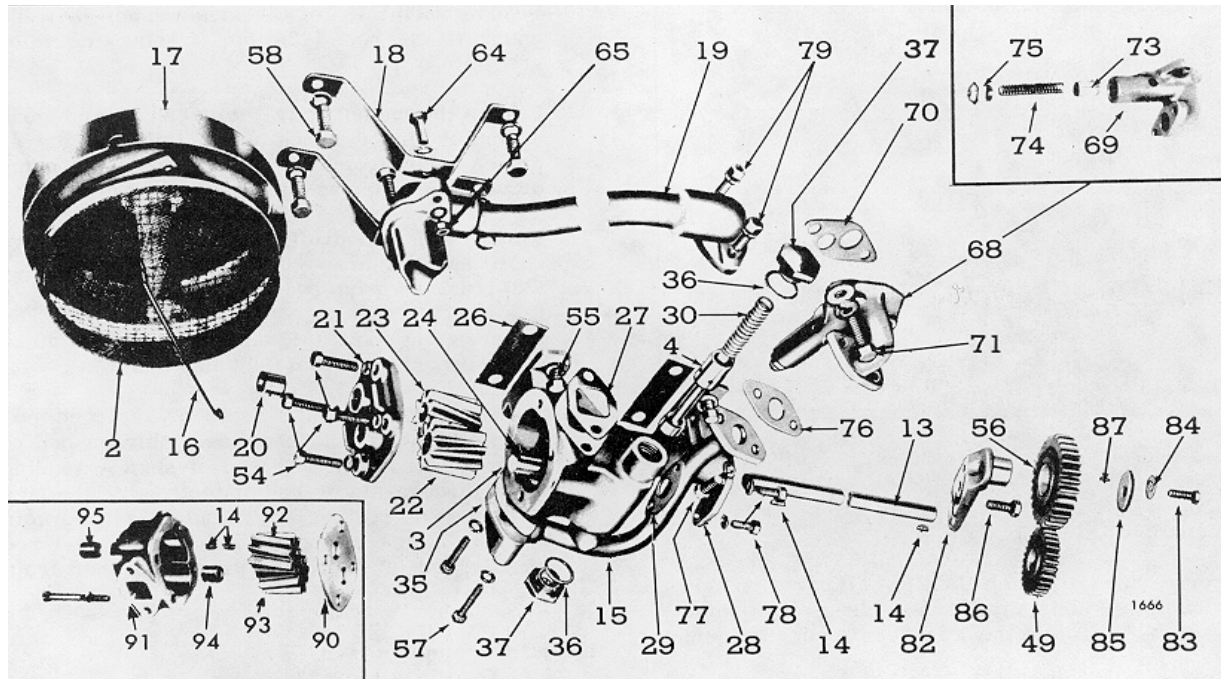
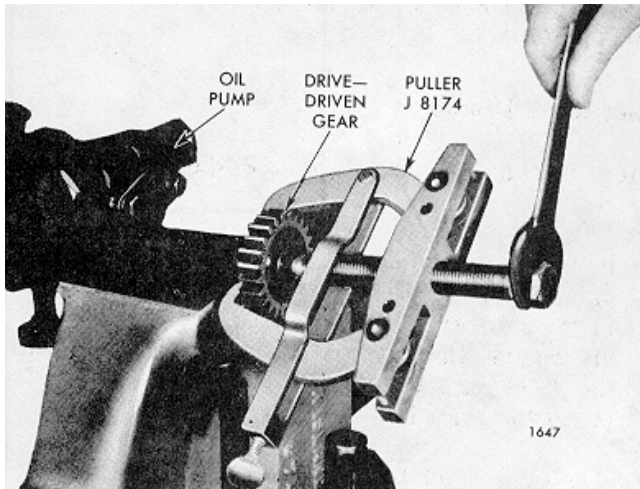
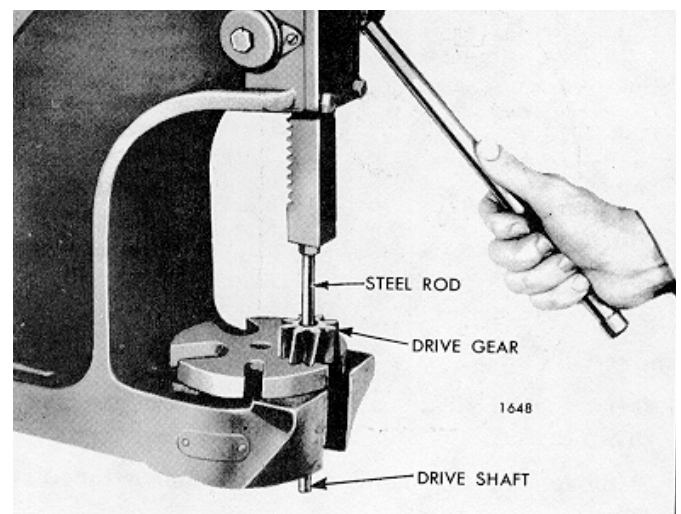

Fig. 3. Oil Pump Details and Relative Location of Parts
Fig. 4. Removing Oil Pump Drive-Driven Gear from Shaft
Fig. 5. Removing Oil Pump Drive Gear from Shaft
pump. The scavenging pump consists of a spacer, two gears, and a pump body (see inset in Fig. 3). Oil which normally flows to the front of the engine during inclined operation of the engine is transferred to the rear of the pan by the scavenging pump and is then picked up by the oil pump for distribution throughout the engine.
3. Remove the oil pump inlet pipe (19) with the screen cover and mounting brackets.
4. Remove the oil pressure regulator and the oil pump outlet pipe (15) as an assembly from the pump body (3).
5. Remove the four bolts and lock washers securing the scavenging pump body or the cover to the oil pump body (3).
8. Remove the valve plugs (37) and copper gaskets (36) from each side of pump body, and jar the relief valve parts from the body (Fig. 3).
9. Remove the pump driven gear (22) from the driven gear shaft (24).
10. Straighten the lip of the lock washer (84) and unscrew the bolt (83) thus freeing the idler gear (56).
11. Clamp the pump body, drive shaft and gear assembly in a bench vise. Pull the drive-driven gear from the outer end of the pump drive shaft as shown in Fig. 4.
12. Remove the Woodruff key (14) from the drive shaft and withdraw the shaft and driven gear (22) from the pump body.
13. Unscrew the bolt (86) and remove the idler gear support (82) from the pump body.
14. If the drive gear (23) is to be replaced, position the gear and shaft assembly on bed of arbor press with long end of shaft extending down through slot in bed plate and with the face of the gear resting on the plate as shown in Fig. 5. Place a short 1/2" round steel rod on the end of shaft, and press the shaft from the gear.
1. If the drive gear (23) was removed from the drive shaft (13), insert the Woodruff key (14) in the keyway and apply a light coat of engine oil on the shaft. Start the shaft squarely into the bore of the gear and, as shown in Fig. 5, press the shaft into the gear.